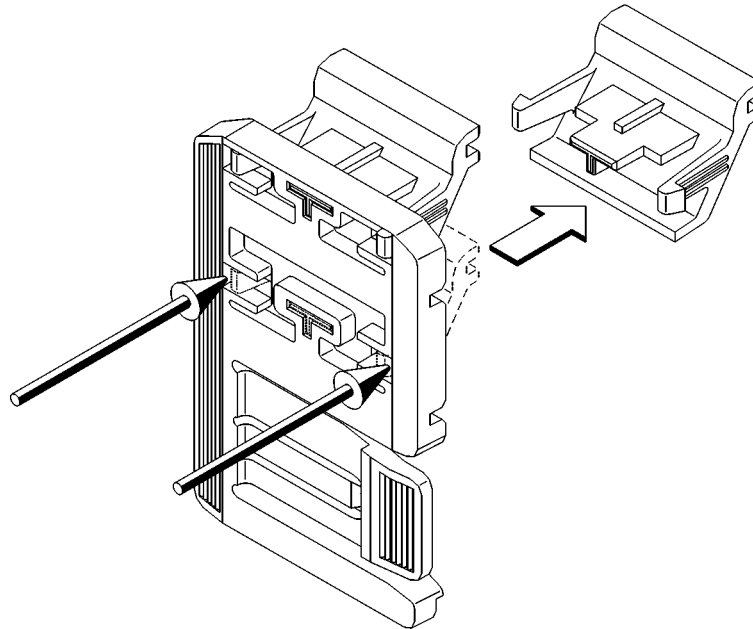

Figure 55
- 6 If you are installing an EISA or GSC option board, you must use a ballpoint pen tip, or other blunt instrument, to remove the PCI adapter from the correct slot position on the option board support bracket, as shown in Figure 55.